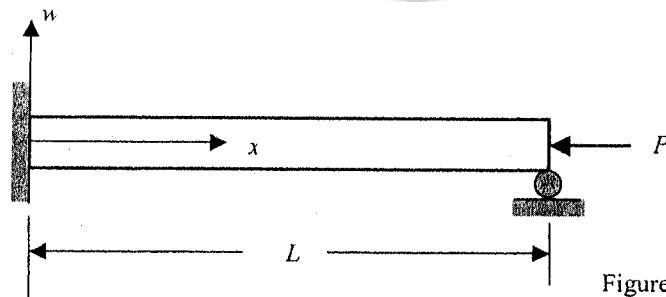

Figure 2
2. When a beam with a uniform cross-sectional property ( $EI = \text{constant}$ ) is axially loaded by a compressive force  $P$ , the equation of equilibrium can be written as  $\frac{d^4 w}{dx^4} + \frac{P}{EI} \frac{d^2 w}{dx^2} = \frac{q}{EI}$ , where  $q(x)$  is the distributed load on the transverse direction. When  $q(x) = 0$ , the compressive force  $P$  that makes  $w(x) \neq 0$  is called the critical load. Determine the critical load for the beam shown in Figure 2. (12%)